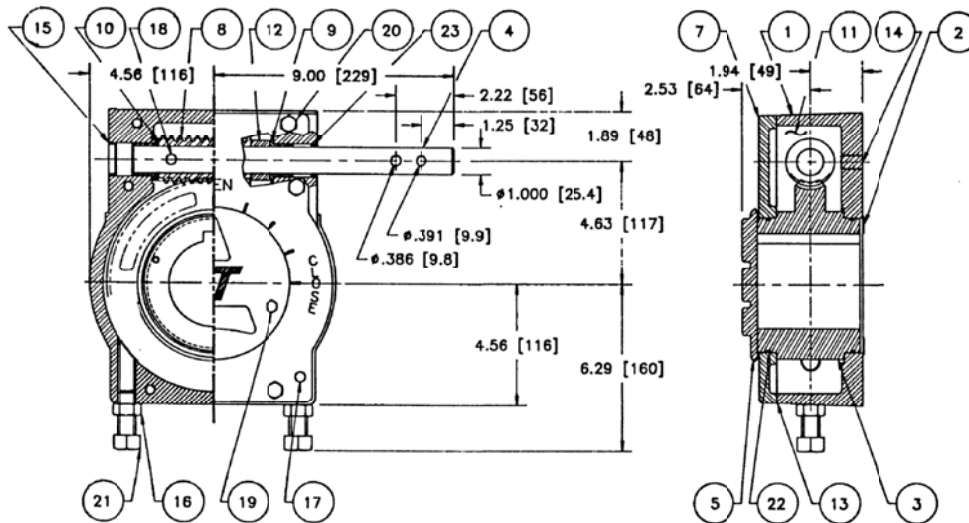

FIGURE 5. GEAR ACTUATOR CONSTRUCTION
GEAR ACTUATOR MAINTENANCE: A typical gear actuator is shown in Figure 5 and consists of a worm (8) mounted on an input shaft (4). The worm engages a worm wheel (3). When the worm is turned, it drives the wheel through 360° of rotation. The rotation of the valve plug is displayed by the top indicator (5). The gears are lubricated with EP2 grease in a cast iron housing (1).